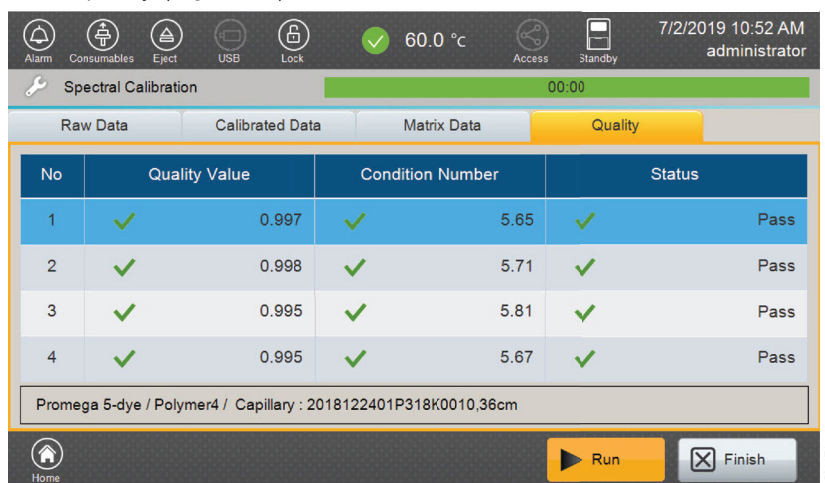

Figure 51. Spectral calibration 'Quality' tab screen.
1. Select the 'Quality' tab to review the quality value, condition number and status for each capillary (Figure 51).